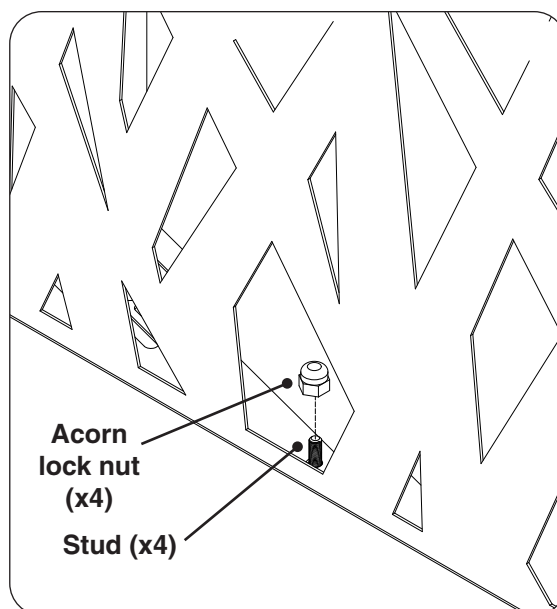

Fig. 22-2 Fasten top assembly to base
2. Using a $\frac{3}{8}$ " socket driver and the four acorn lock nuts provided, fasten the top assembly to the lantern base as shown in Fig. 22-2.